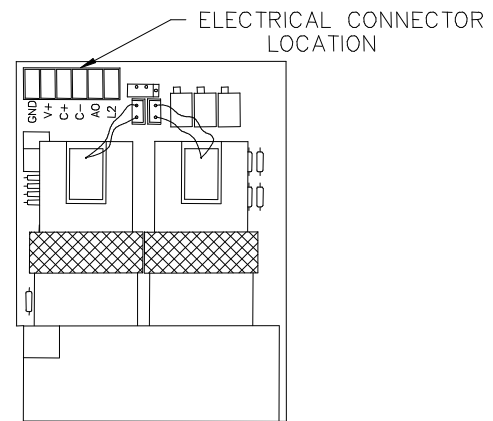

Figure 7
2. Figure 7 shows the location of the MM electrical connector and Table 2 identifies each connection.